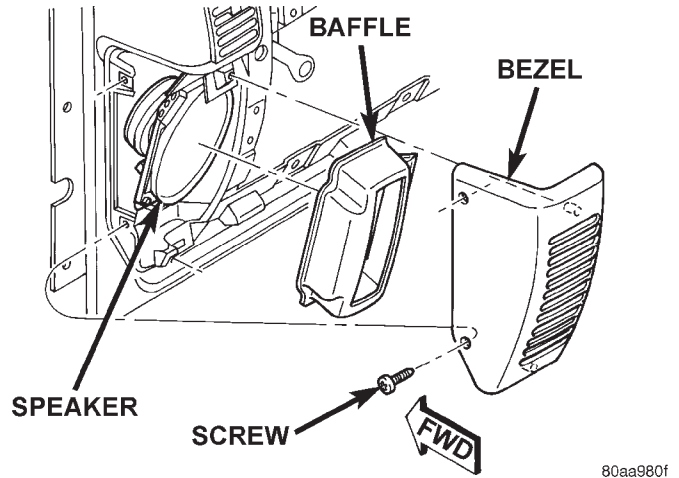

Fig. 5 Instrument Panel Speaker Bezel Remove/Install
(1) Disconnect and isolate the battery negative cable.
(2) Remove the two screws that secure the out-board end of the speaker bezel to the instrument panel (Fig. 5).
(3) Using a trim stick or another suitable wide flat-bladed tool, gently pry at the top and bottom edges of the speaker bezel to release the two snap clip retainers that secure the bezel to the instrument panel.